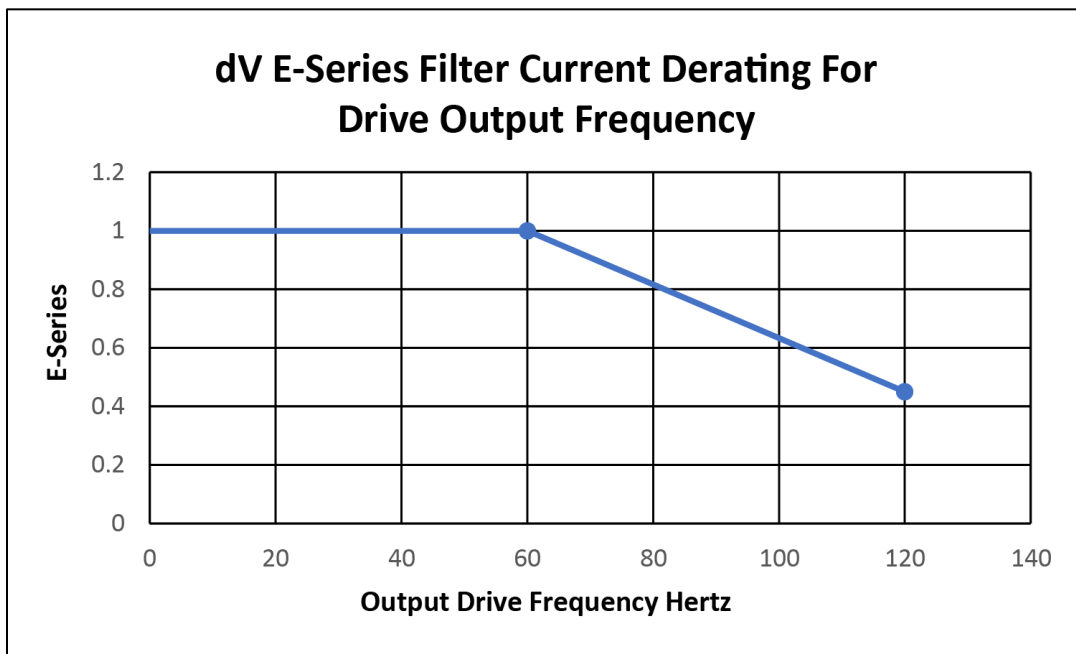

Figure 3-3: Current Derating for Drive Output Frequency
- Figure 3-3: Current Derating for Drive **Output Frequency** (p12) for derating curve.